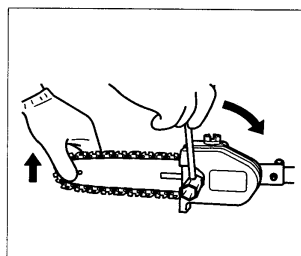

Fig. 1-11
7. Raise the bar end, and tighten the chain (1) by turning the tension adjustment bolt (2) clockwise. To check proper tension, lightly lift up the center of chain and there should be about 0.5-1.0mm clearance between bar and edge of drive link (3). (Fig. 1-11, 12)
PROPER TENSION IS EXTREMELY IMPORTANT! (Fig. 1-11, 12)